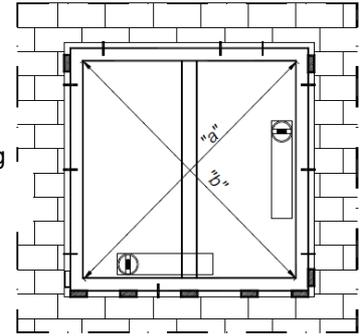

Fig. 4. Checking the window frame setting in the wall opening
- checking the square, level and plumb of the frame (acceptable diagonal difference - 2mm) Fig. 4